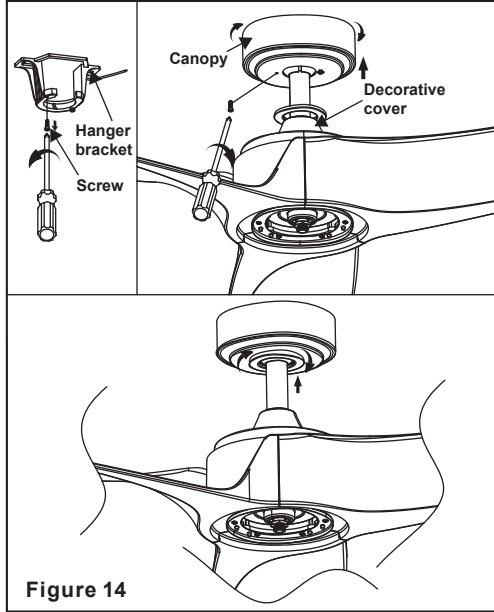

Figure 14
Step 2. Slide the canopy up to mounting bracket and place the key hole on the canopy over the screw on the mounting bracket, turn canopy until it locks in place at the narrow section of the key holes. (Fig. 14)